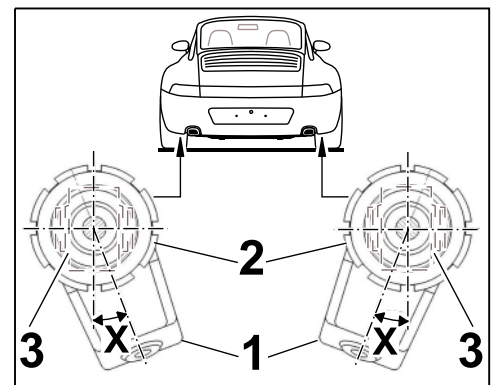

Figure 9
- 3.3 Prepare shock absorbers for installation (left/right side of vehicle ⇒ *Figure 9*).
- 3.3.2 Adjust dimension X = 21° as required (⇒ *Figure 9*).